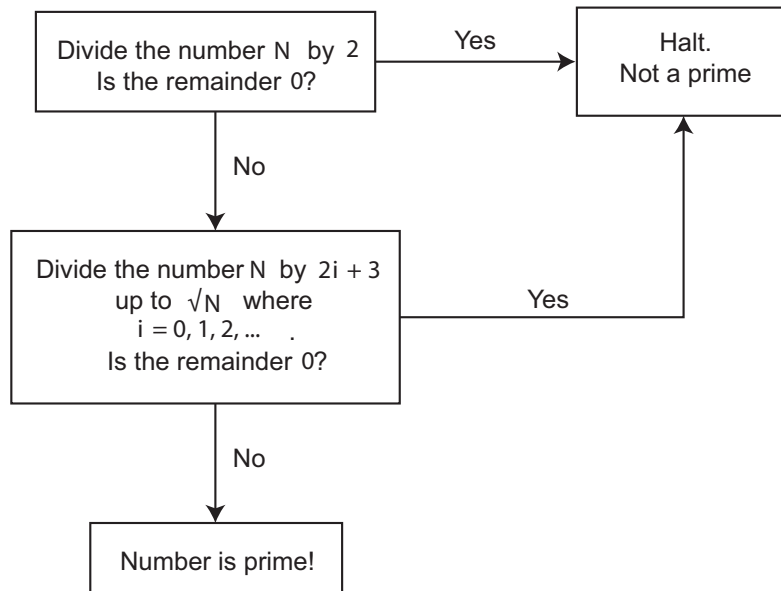

Figure 2: Possible prime number detection algorithm.
4. Construct a program that tests whether an input number is a prime number or not. Use a case structure within a `while` loop. Check division with respect to 2 and follow the flowchart provided in Fig. 2.